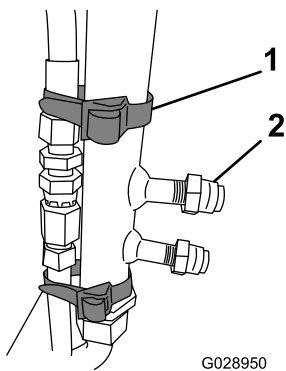

Figure 5
4. Insert blanking caps into the holes in the manifold (Figure 5).
1. Secure the rear tee assembly to the manifold using 2 cable ties (Figure 5).